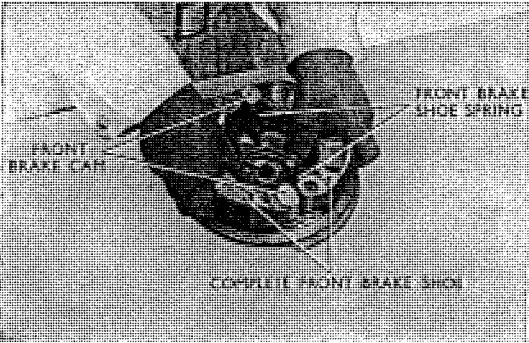

Fig. 4.71 Removing front broke shoe
8. By removing two 2×25 cotter pins and the anchor pin mounting washer, remove the brake shoe from the panel. (Refer to Fig. 4.71)